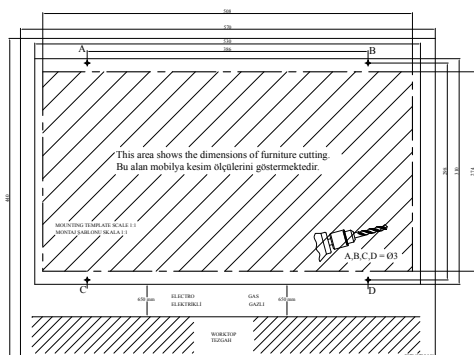

Figure 1
- Drill the holes indicated on the installation draft with A, B, C, D using a $\varnothing 4$ mm drill bit. (Figure 1)